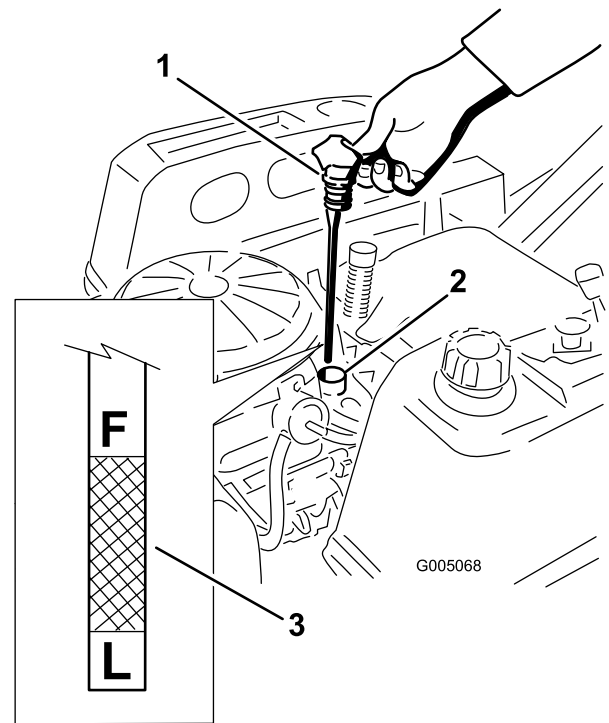
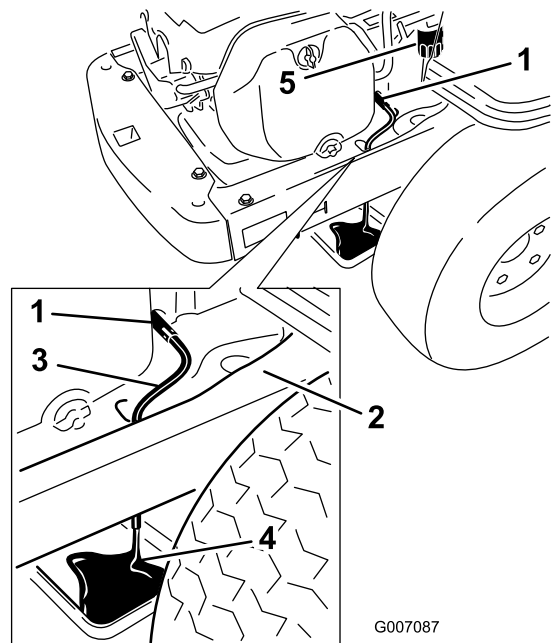

Figure 25
Figure 27
- Pull and remove the oil fill cap/dipstick; wipe oil off. Reinsert the dipstick and push firmly into place (Figure 25).
- Remove the dipstick and check the oil level. (Figure 25).
7. Place a pan underneath machine directly below the drain hole in the frame as shown in Figure 27.
8. Open the oil drain valve to allow oil to drain (Figure 27). Remove the oil fill cap/dipstick (Figure 25).
10. Remove the old filter and wipe off the mounting pad (Figure 27).
11. When oil has drained completely, close the oil drain valve. Remove the oil drain hose and wipe up any excess oil on the frame (Figure 27).
15. Slowly pour approximately 80% of the specified oil into the filler tube (Figure 25).
16. Install the oil fill cap/dipstick and push firmly into place (Figure 25).
17. Check the oil level (Figure 25); refer to Checking the Oil Level.
19. Install the oil fill cap/dipstick and push firmly into place (Figure 25).